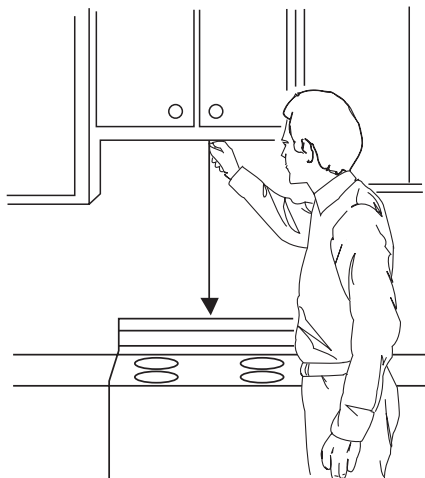

Figure 24
1. Using a plumb line and measuring tape, find and mark the vertical center line on the back wall, as in Figure 24.
NOTE: Be sure the minimum width is 30 inches and the distance from the top of the wall template to the range or counter top is at least 30 inches. See Figure 24.
1. Center the rear wall template in the space by lining up the plumb line on wall with centerline on template. Then securely tape or tack the rear wall template in place. Make sure the minimum width is 30 inches and that the top of the rear wall template is located a minimum of 30 inches above the cooking surface. See Figure 24.